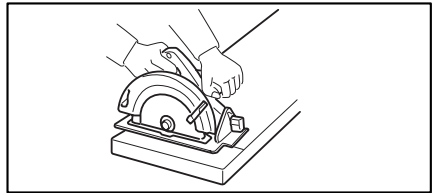
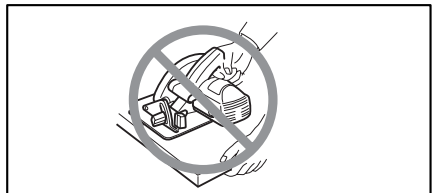

Fig. 5
Fig. 6
16. **Place the wider portion of the saw base on that part of the workpiece which is solidly supported, not on the section that will fall off when the cut is made.** As examples, Fig. 5 illustrates the **RIGHT** way to cut the end of a board, and Fig. 6 the **WRONG** way. If the workpiece is short or small, clamp it down. **DO NOT TRY TO HOLD SHORT PIECES BY HAND!**